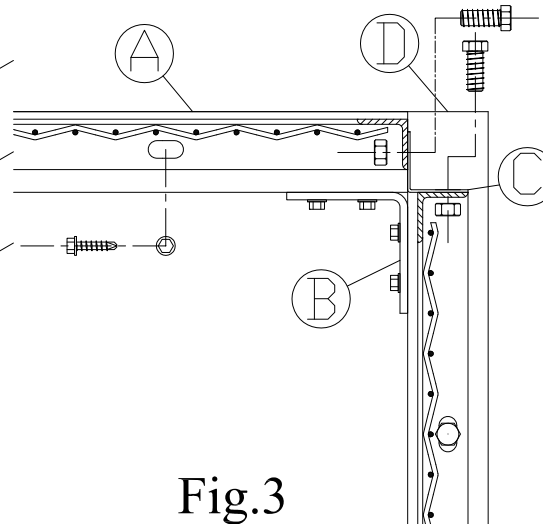

Fig. 3
5. Install slotted angle (C) on top of wall panels per instruction page 19.
7. Use self drilling screws to attach panels to horizontal ceiling tubes Fig. 3.